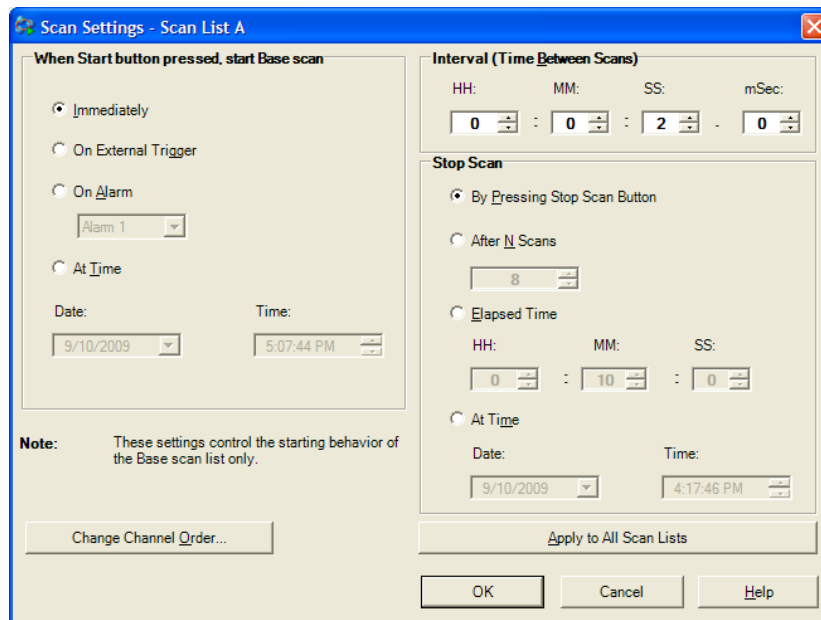

Figure 15 – Setting up scan and data control
- Select the **Scan and Log Data** tab. The first screen seen is a summary of the channels just configured. A quick inspection will verify the channels are correct. Notice the **Scan Control** section (as shown at right). Configure the scan settings by pressing the **Set...** button. In this case set the **Interval (Time between Scans)** to 2 seconds and press OK (figure 15).